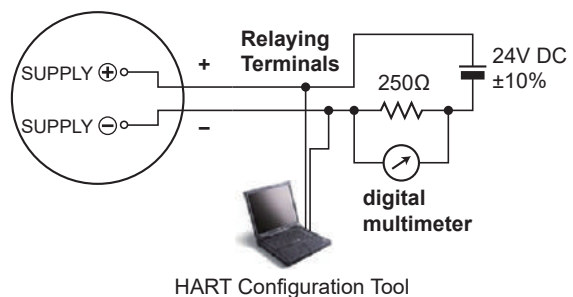

Figure 7.1 Connection Method
1. Connect the instruments as shown in Figure 7.1, and warm up for three minutes more.